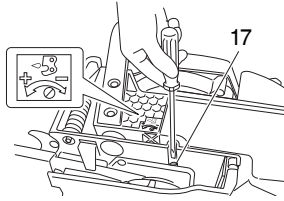

Fig. 10
Turn the adjusting screw (17) counterclockwise to increase the quantity and turn it clockwise to decrease the quantity. (Fig. 10)